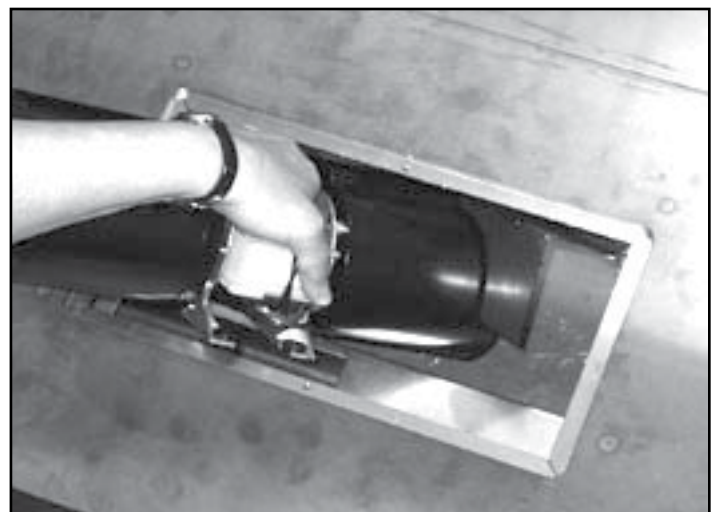

Figure 31.3 Installing Blowers
4. Before installing the blower, make sure the grommets are tightly in place. Insert the right blower and place over the 2 locating pins. Repeat for other blower. Figure 31.3.